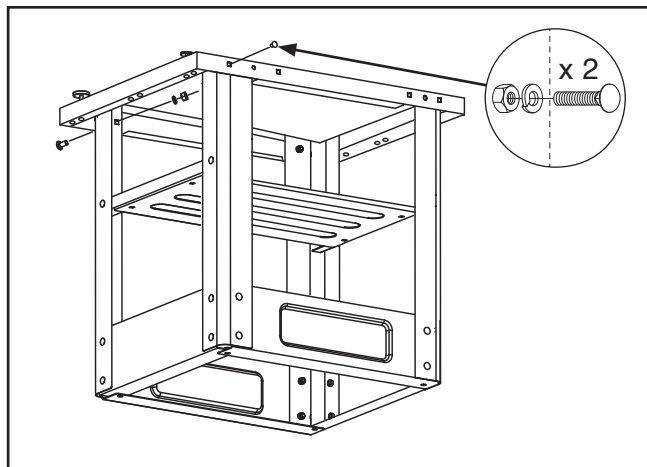

Figure 7. Installing legs on base.
7. Install side of base rail assembly with leveling feet assembly on legs with (2) M8-1.25 x 20 carriage bolts, (2) 8mm lock washers, and (2) M8-1.25 hex nuts (see **Figure 7**).